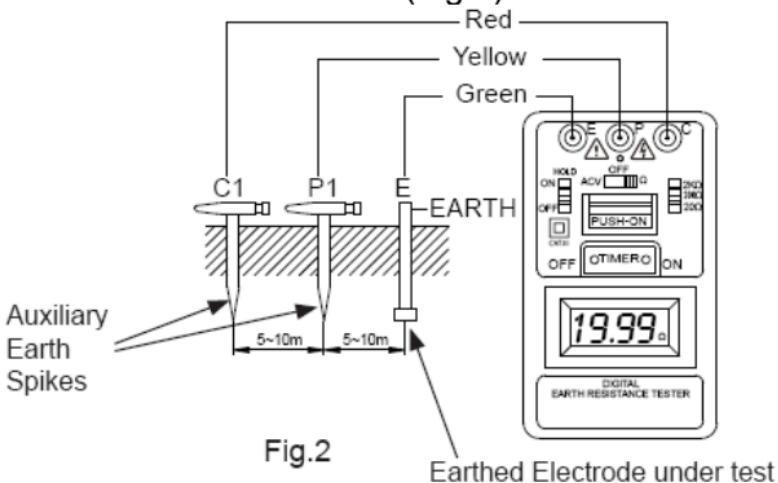

Fig.2
Connect green, yellow and red test leads to instrument terminals E, P and C with auxiliary earth bars P1, C1 driven into earth "IN A STRAIGHT LINE".(Fig.2)
- Follow the proper connection such as Fig.2, the LED(red) indicator will lit. This proves a correct current circulation is under its operation.